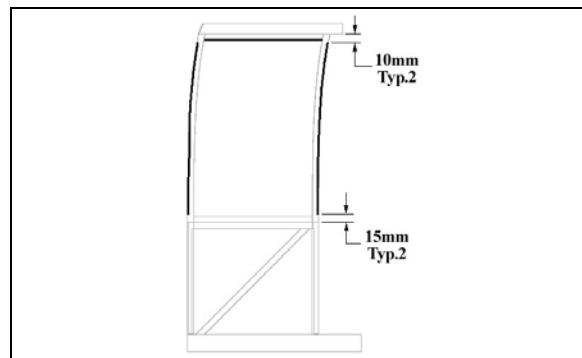

FIGURE 55 : SIDE WINDOW – 1/4 X 1/2 DOUBLE FACE ADHESIVE TAPE INSTALLATION
3. Apply 1/4" X 1/2" double face self adhesive tape on the slide-out structure for side fixed window (see FIGURE 55) [10mm≈3/8"] [15mm≈19/32"];